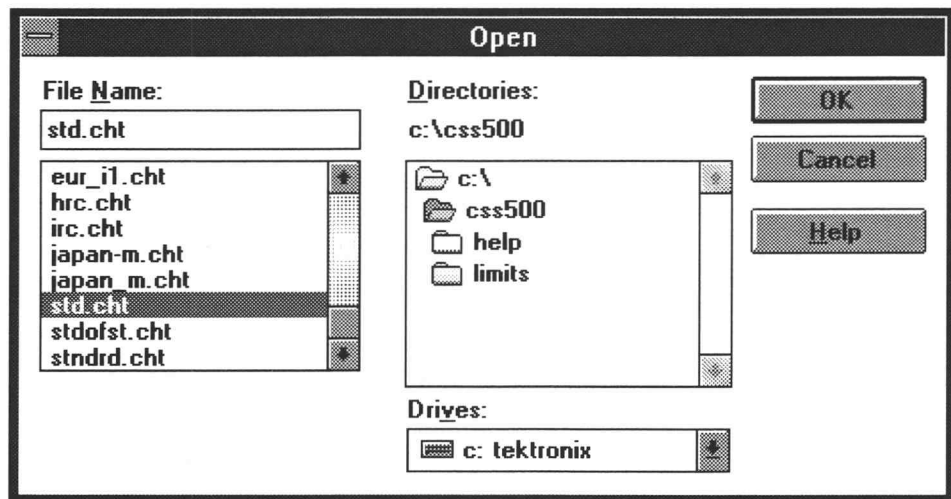

Figure C-6. The Open dialog box.
2. Choose the No command (you don't need to save the practice work). Next, the Open dialog box appears. See Figure C-6.